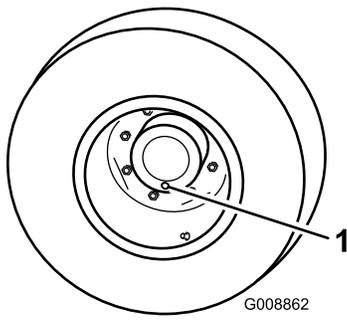

Figure 93
1. With the machine on a level surface, position a wheel so a check plug is at the lowest (6 o'clock) position (Figure 93).